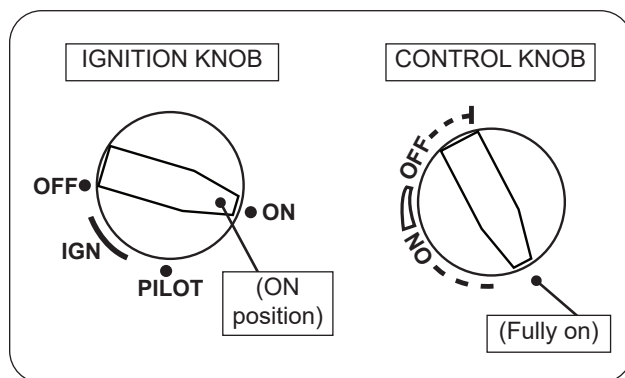

Fig. 33-1 Manual lighting
1. Ensure the pilot is burning. Turn the ignition knob counterclockwise ↺ to **ON** (see Fig. 33-1).
2. Turn the control knob counterclockwise ↺ to the fully ON position to ignite the burner (see Fig. 33-1).